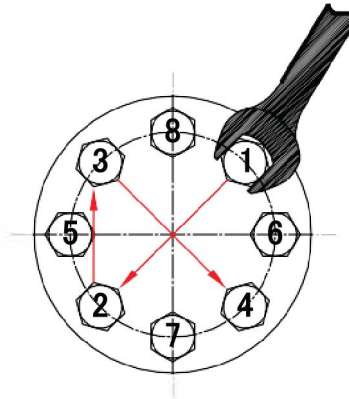

Figure 3 Order for tightening bolts
- Bolts connected with flange must be screwed alternately, diagonally and evenly when the strainer is connected with pipe. See figure 3.
- Cover bolts connected with body flange must be screwed alternately, diagonally and evenly. See figure 3 same as connecting pipe flange. Since the sealing material is rubber gasket, it does not need large tightening torques. Please refer to the values in Table 1